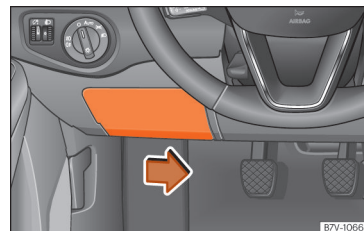

Fig. 58 On the driver's side dashboard: fuse box cover.
- To remove the cover, move the activation lever in the lower part to the right » **Fig. 58**.